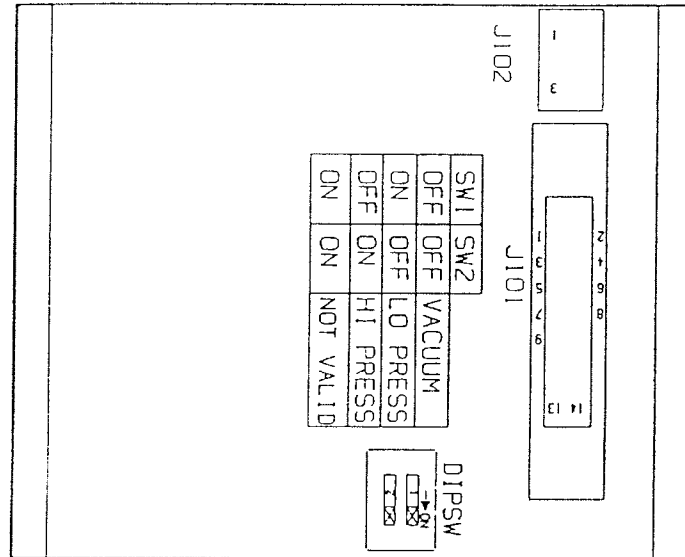

Figure 20 – Pressure/Vacuum Switch
- 5.2.1 On each Pressure/Vacuum Module there are two switches (see Figure 20) that tell the Control Module what pressure range to display on that particular module. These switches must be set before proceeding with the rest of the Set-up. After setting the switches on all Pressure/Vacuum Modules, press the Reset Button (see Figure 5) on the Control Module.